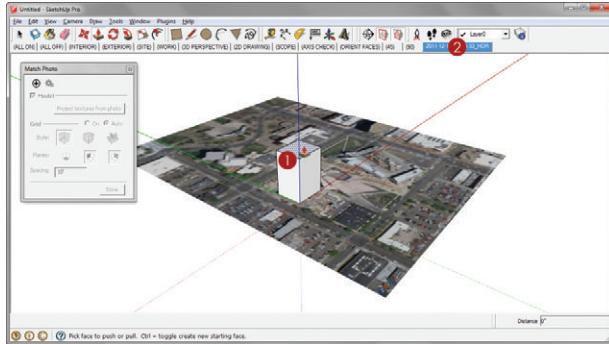

Figure 16.14 Use the Push/Pull tool to adjust the building's height.
1. Orbit to a bird's eye view. Activate the Push/Pull tool and click once on the top of the building (Figure 16.14).